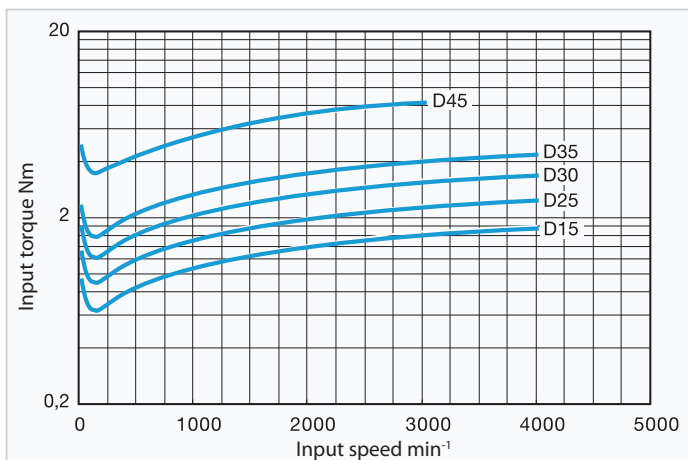

Fig. D-1
1. Fig. D-1 shows the average no-load running torque after gearbox is run in. (not factory-new condition)